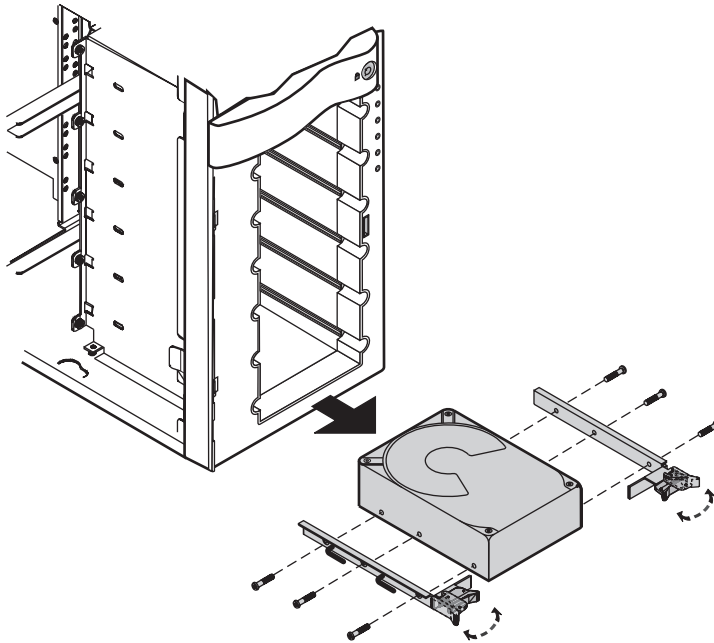

Figure 22: Removing an SCA Drive
3. Pull the release latches on the guide rails outward to release the drive from the RAID bay (see Figure 22).